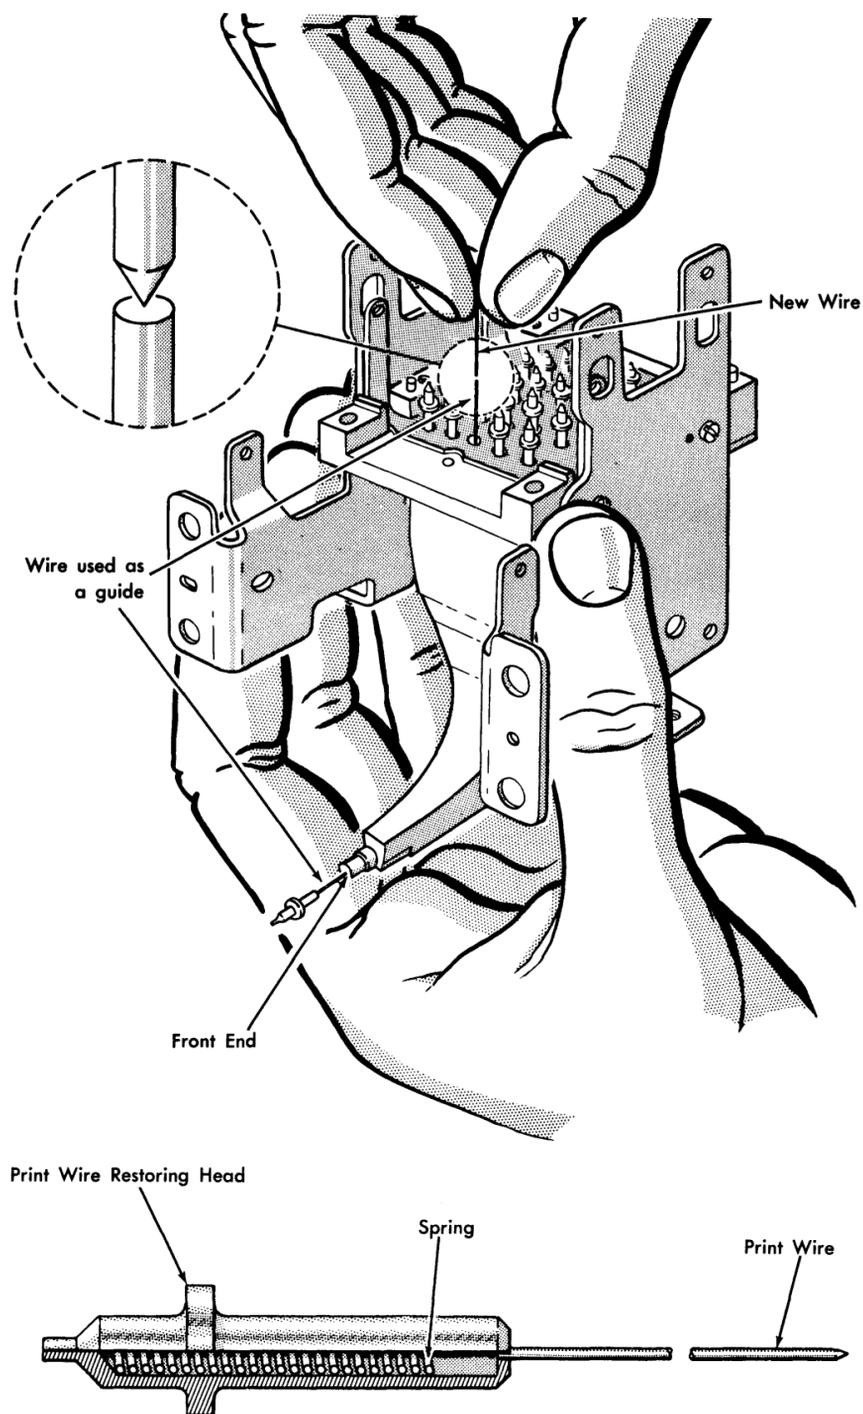

Figure 4-51. Print Wire Replacement
*Note:* Apply IBM #6 oil to any print wire before installing it in the print unit. Usually a new wire can be installed without difficulty by inserting it in the hole from which the old wire was removed. Lightly stone the edge of the new wire to remove any burrs. Do not make the wire pointed. If trouble occurs, it is then necessary to insert another wire, used as a guide, from the front end. In this procedure, the end of the new wire should be pointed. (If a new wire is used as a guide, stone its end flat.) Then, using the first wire as a guide, push the new wire into the unit as shown in Figure 4-51. Reinstall the rear guide plate and pull all wires